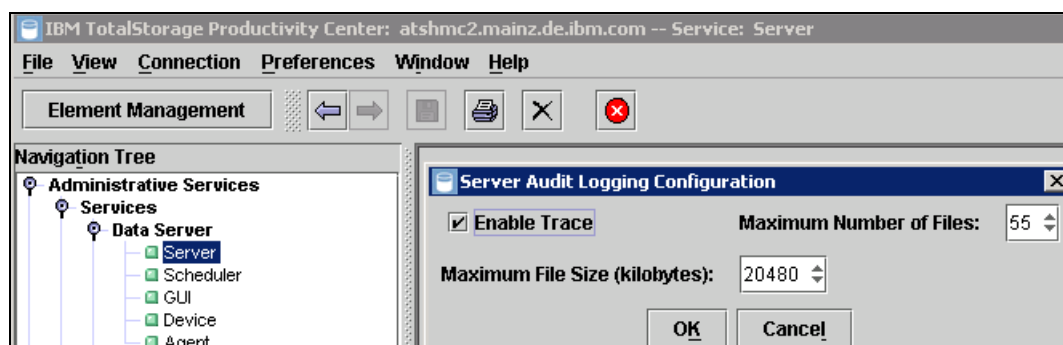

Figure 12-18 Configuring TPC Audit Logging
3. In the Server Audit Logging Configuration window (Figure 12-18), check the **Enable Trace** check box to enable tracing for the server component.